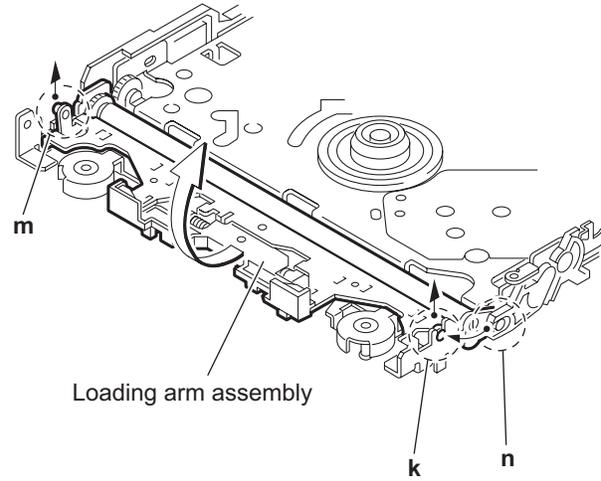

Fig.13
3.2.7 Removing the loading arm assembly (See Fig.13 , 14)